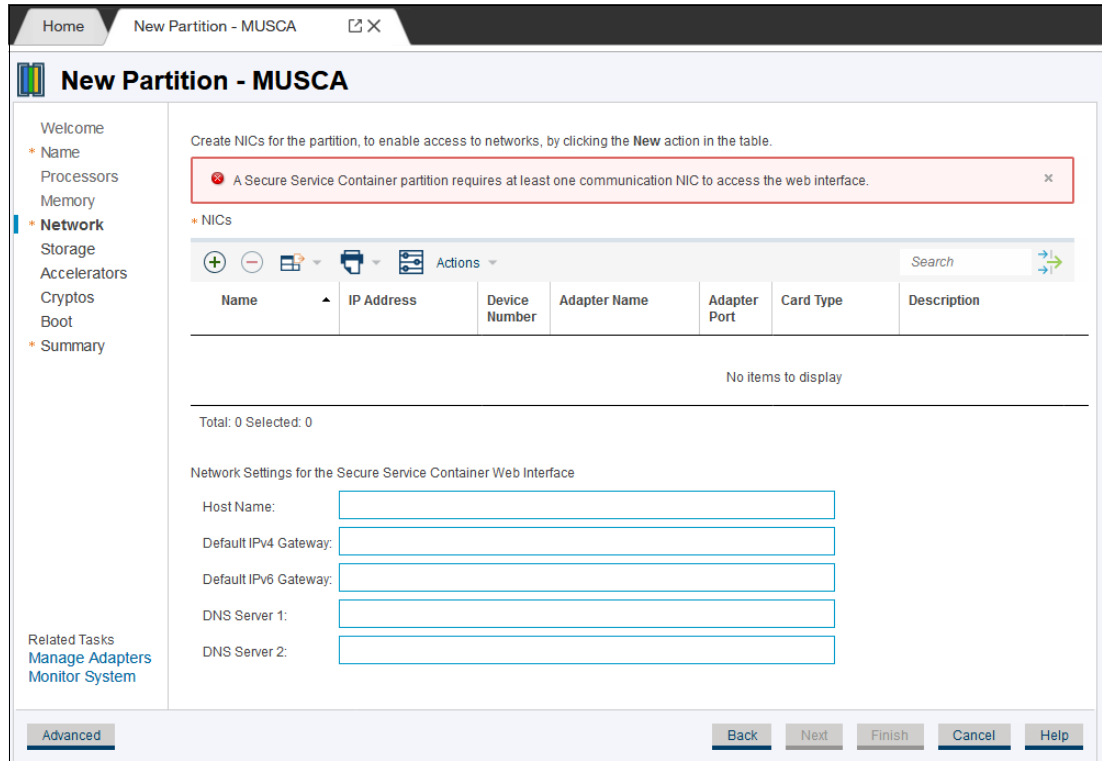

Figure 16-52 NIC selection
5. Select the Network Interface Card adapter for this partition, as shown in Figure 16-52 on page 422.